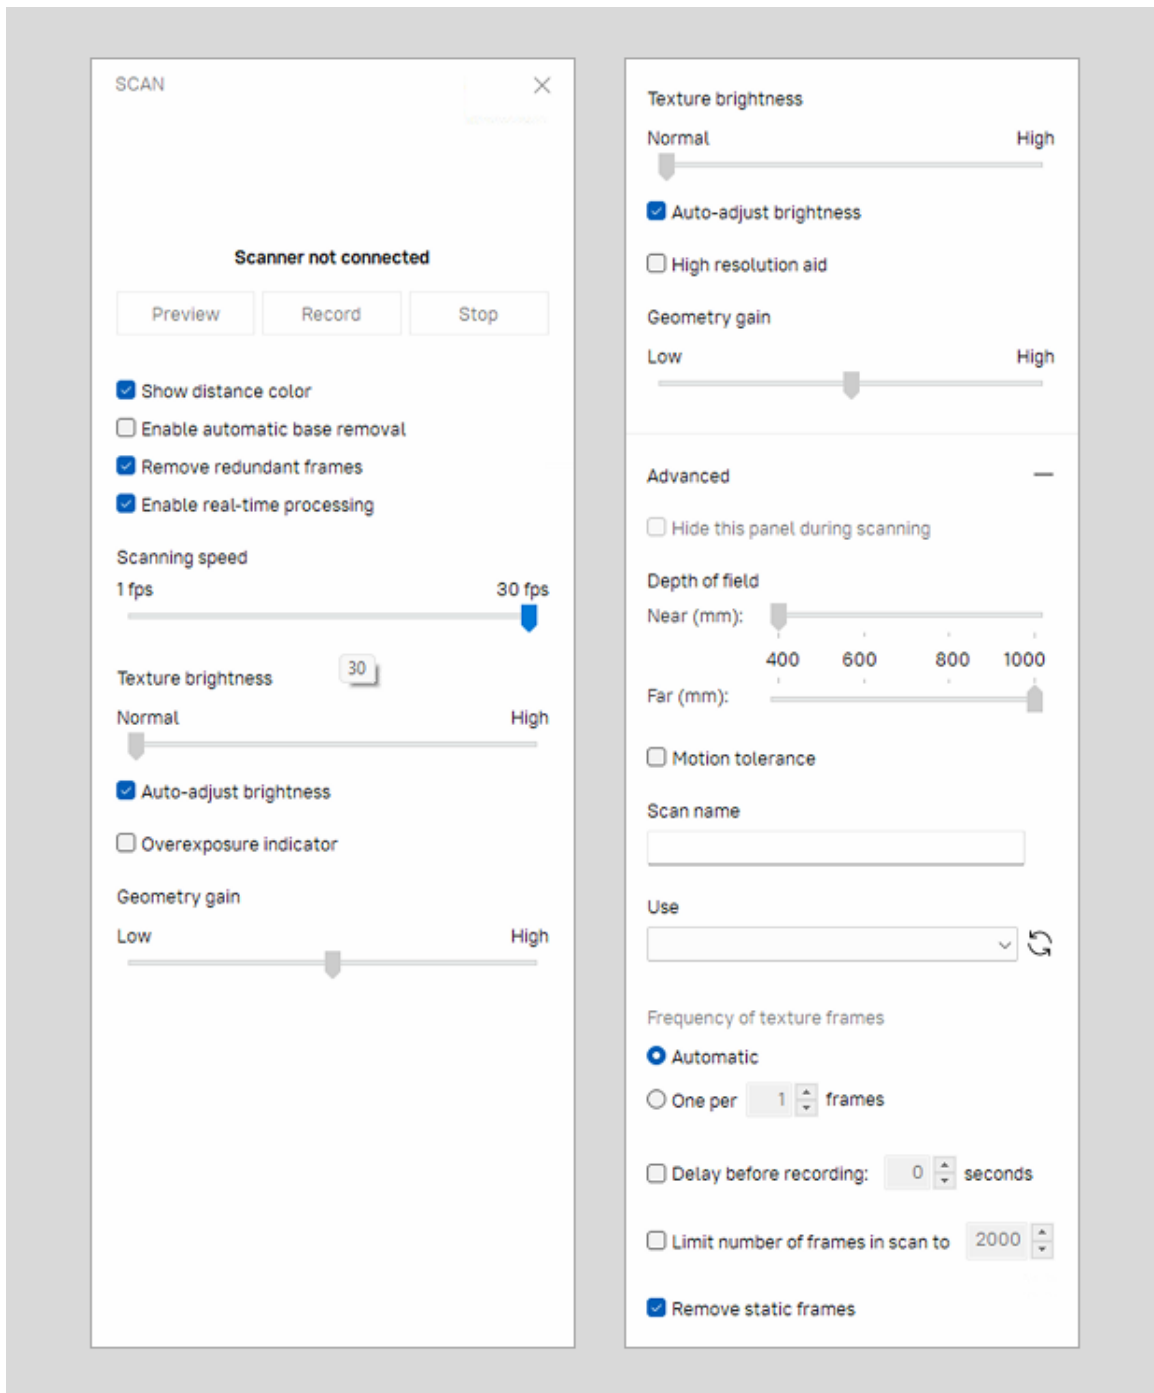

Figure 67: Scan panel: *Advanced* section hidden (on the left) and revealed (on the right).
1. Check the *One per ... frame* radio button (see Figure 67, right).